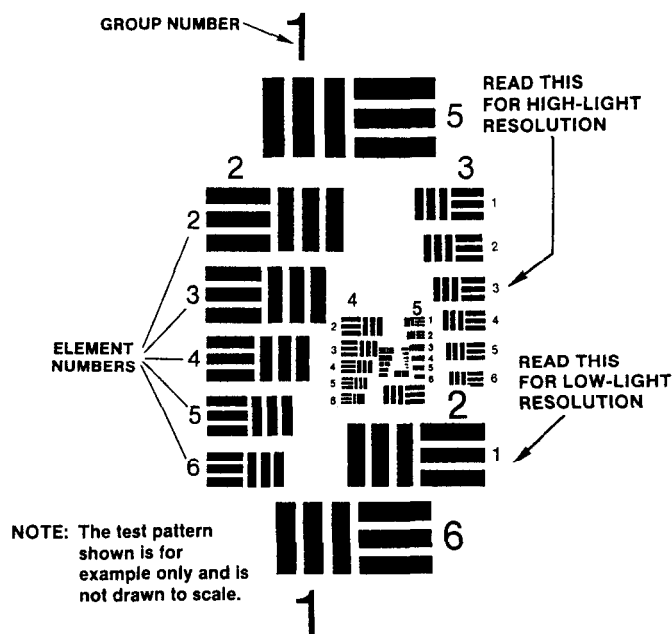

Figure 2-15. TS-4348/UV Test Set Pattern.
9. The NVG must be able to resolve Group 2, Element 1 (fig. 2-15) under low-light conditions to pass the test. If the monocular does not pass the test, send the NVG to AVIM for repair.
8. The NVG must be able to resolve Group 3, Element 3 (fig. 2-15) under high-light conditions to pass the test. If the monocular does not pass the test, send the NVG to AVIM for repair.